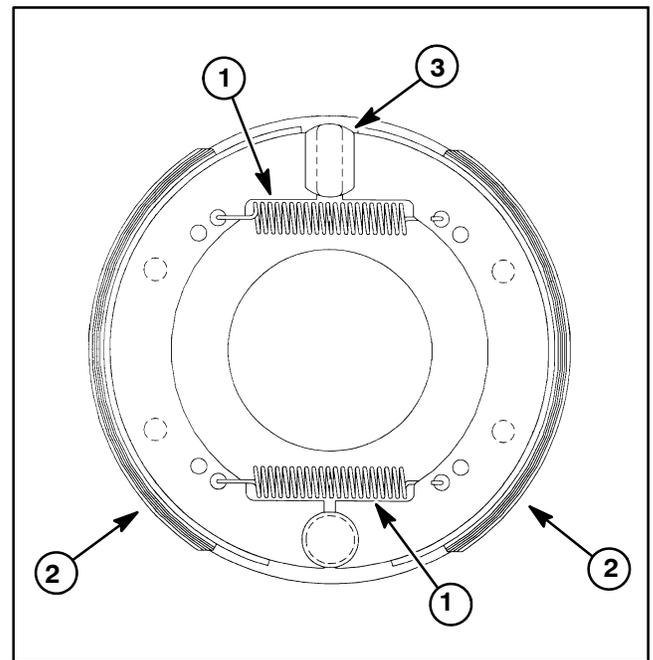

Figure 3
5. Make sure that lock nut (item 3) on wheel motor shaft is loosened at least two (2) turns. Use hub puller (see Special Tools in this chapter) to loosen brake drum assembly from wheel motor.
6. Remove lock nut and brake drum assembly. Locate and retrieve woodruff key (item 13).
7. Remove return springs from brake shoes (Fig. 3). Remove brake shoes from backing plate.
- A. Remove retaining clip (item 10) from the brake cam (item 9). Separate brake lever (item 4) from brake cam.
- B. Remove four (4) cap screws (item 11), lock nuts (item 12) and brake backing plate from the brake bracket (item 14).
10. If wheel hub (item 6), brake drum (item 5) or drive studs (item 7) need replacement, press four (4) drive studs from wheel hub and separate hub from brake drum.
1. If wheel hub was separated from brake drum, position hub to drum and secure by pressing four (4) drive studs through hub. Make sure that studs are pressed fully into hub.
- A. Secure backing plate to the brake bracket (item 14) with four (4) cap screws (item 11) and lock nuts (item 12).
- C. Apply antiseize lubricant to spline area of brake cam. Slide brake lever (item 4) onto brake cam and secure with retaining clip (10). Make sure that brake lever pivot is inserted into machine frame during assembly.
3. Position both brake shoes on the backing plate (Fig. 3). Insert return springs into the holes of both brake shoes.
4. Make sure that wheel hub bore and wheel motor shaft are thoroughly cleaned. Install woodruff key (item 13) to the wheel motor shaft. Slide brake drum assembly over shaft and key.
5. Secure brake drum assembly to motor shaft with lock nut (item 3).
6. Install front wheel and secure with four (4) lug nuts. Tighten lug nuts evenly in a crossing pattern.